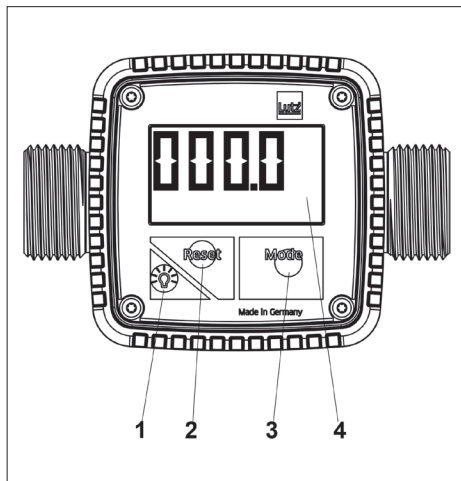

Fig. 7
The flow meter TR3 is operated using three keys (→ Fig. 7): "Reset" (2), "Mode" (3) and "Light" (1). Information is shown on the LCD display (4) with a permanently visible display.